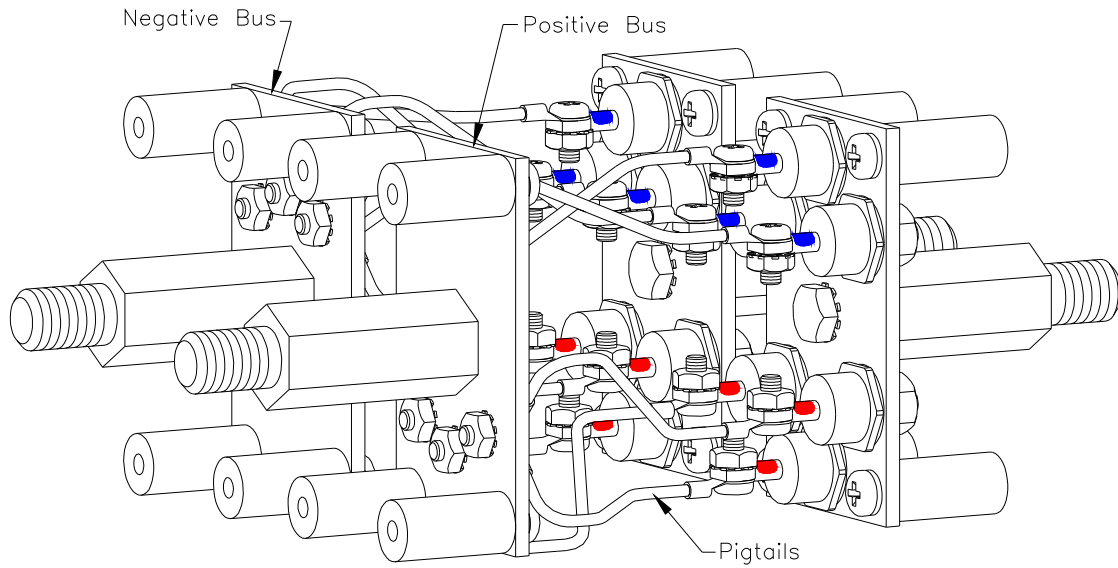

FIGURE 8.1
- a) Refer to Figures 8.1, 8.2 and 8.3 for this step. When completed, the assembly will look like Figure 8.1.
- c) Position the buses as shown in Figure 8.1. All six Pigtails from the lower rectifiers (with red dots) connect to the three holes in the Positive Output Bus.